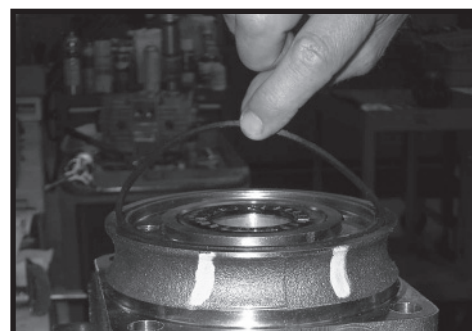

Figure 50
- Apply a small amount of clean grease to a new seal ring (4) and insert it into the housing (18) seal ring groove. SEE FIGURE 50.
**NOTE:** One or two alignment studs screwed finger tight into housing (18) bolt holes, approximately 180 degrees apart, will facilitate the assembly and alignment of components as required in the following procedures. The studs can be made by cutting off the heads of either 3/8-24 UNF 2A or 5/16-24 UNF 2A bolts as required that are over .5 inch (12.7 mm) longer than the bolts (1, 1A, 1B, or 1C) used in the Torqmotor™.